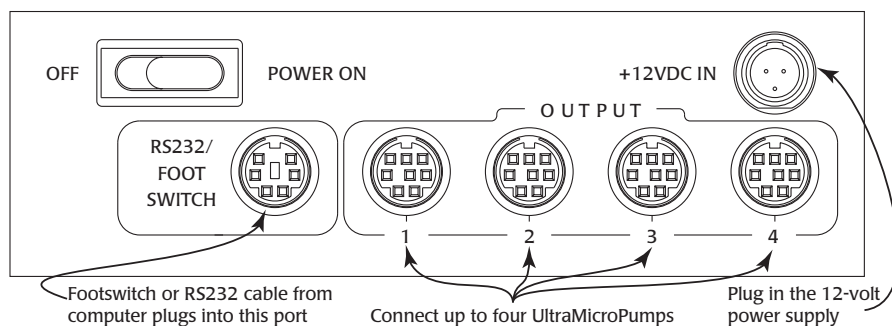

Fig. 5—On the rear panel of the **Micro4** controller, connect the footswitch, up to four **UMP3** pumps and the 12V power supply.
Plug the **UltraMicroPump** cable into an output socket on the back of the **Micro4** controller (Fig. 5). Up to four pumps may be connected and independently controlled.
1. Plug the 12-volt power supply into the rear panel of the **Micro4** (Fig. 5).